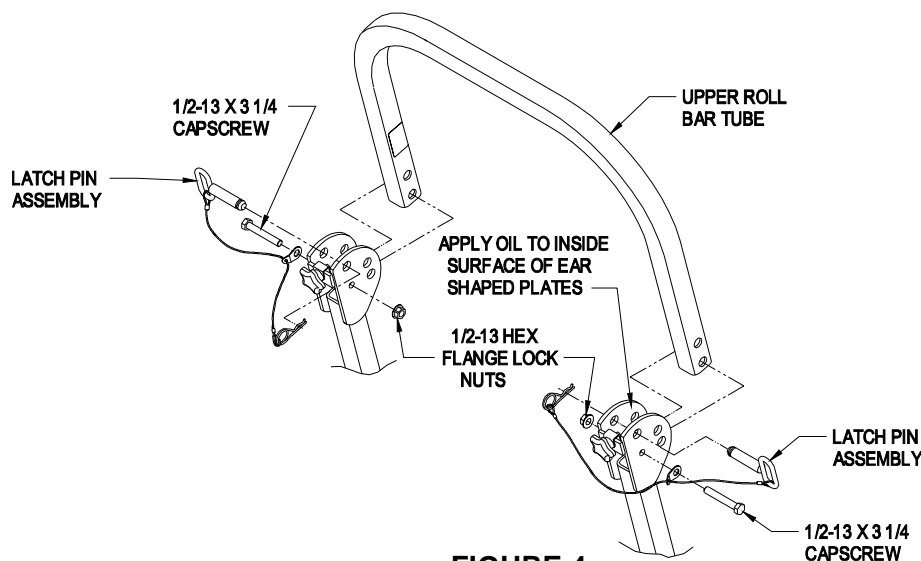

FIGURE 4
3.2.15 Install the upper u-shaped section of the roll bar. (Reference Figure 4 for alignment and installation instructions below):